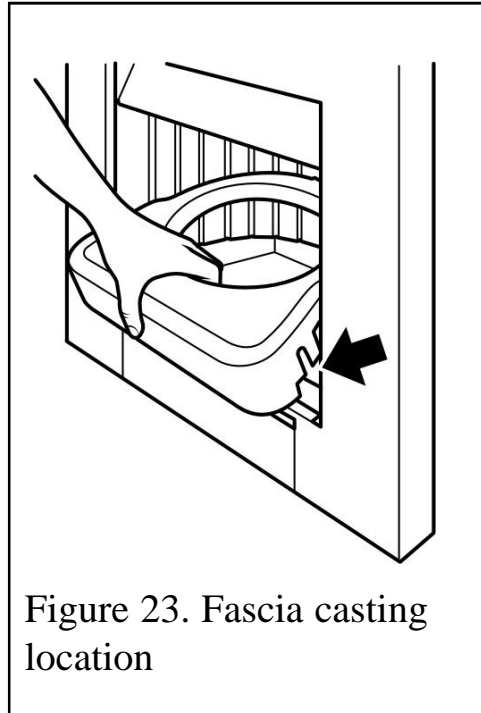

Figure 23. Fascia casting location
2. Unpack the fascia casting and lower into the hotbox as in figure 23. The
side of the casting has slots that locate over the front of the burner unit (See figure 23). At the rear of the casting there is a small shelf. This should locate under the ribbed panel. After locating the casting gently push the front of the casting.